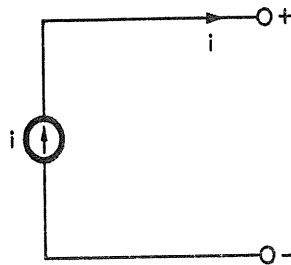

FIG. 1.71 : SYMBOL FOR THE IDEAL CURRENT
(2) Ideal Current Source :
- Ideal current source is shown in Fig. 1.71.